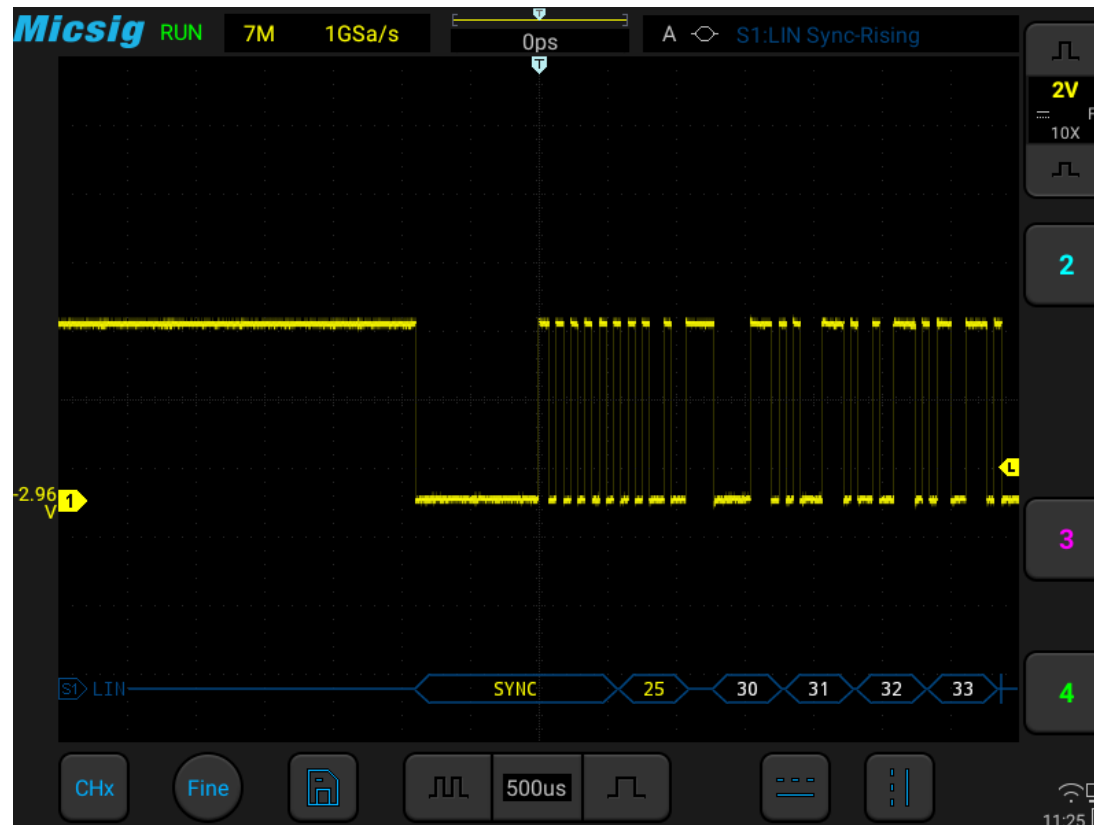

Figure 12-12 LIN Graphic Interface
- (1) Tap S1 to open the decode channel, and click again to open the bus configuration menu;
- (2) Select the bus type as “LIN”, click “Ch1”, “Idle High”, “19.20kb/s”, and then close the menu;
- (3) Open the trigger mode configuration menu and click “Synchronous Rising Edge”;
- (4) Click  configuration information to open the decode channel threshold level adjustment box, and drag the adjustment box upward and downward to adjust the threshold level; adjust the threshold level according to the signal amplitude level to make the signal stably triggered. The LIN trigger graphic interface is shown in Figure 12-12: